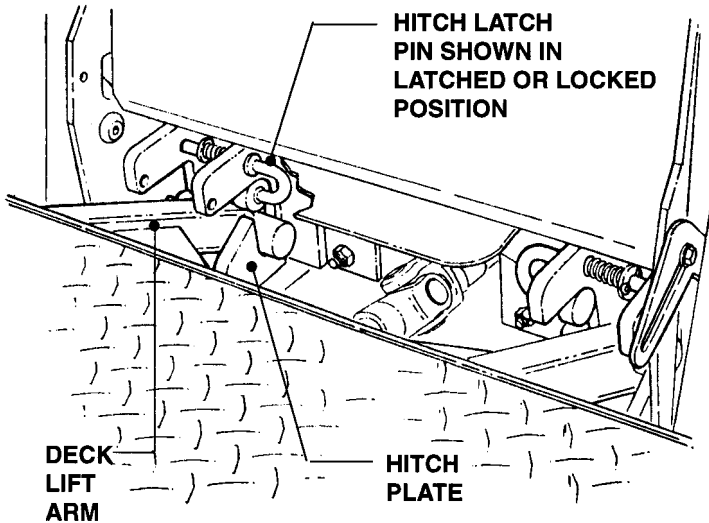

FIGURE 8.14
- C. The Hitch Latch Pins are shown in the latched position. The latched position locks the Deck Lift Arm into position. See Figure 8.14.